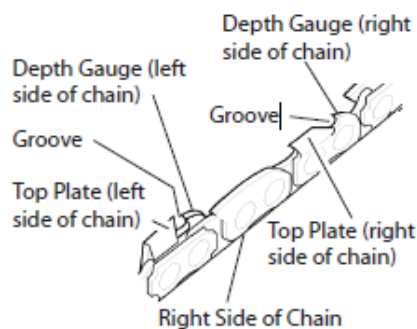

Fig. 13a
- 3) Rest a 5/32" round file (attached to a file guide) between top plate and depth gauge, then sharpen the cutters as illustrated in Fig. 13a & 13b.